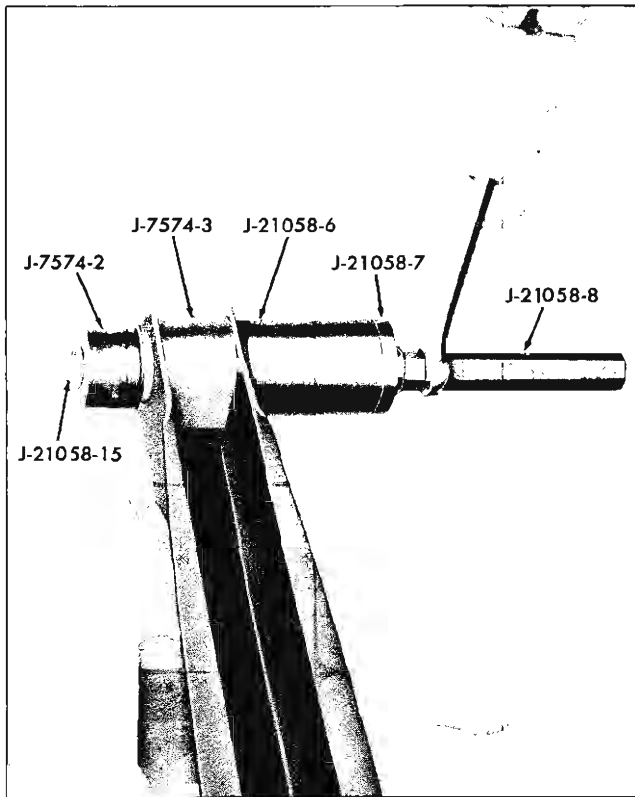

Fig. 24—Lower Control Arm Front Bushing Installation
- adapter resting against flange portion of bushing. Install Receiver J-21058-6 and Bridge J-21058-7 on opposite side of control arm (fig. 24).